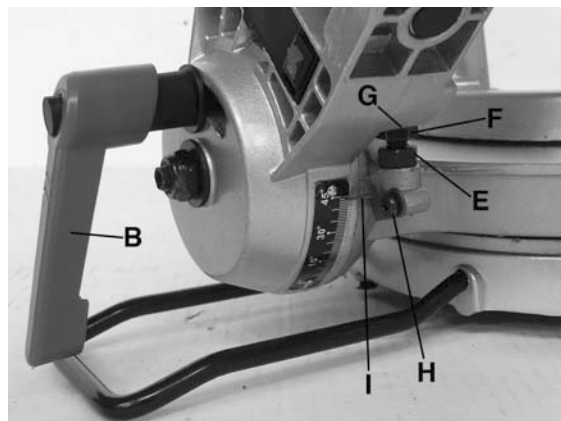

FIGURE 14
5. A bevel angle pointer adjustment may be needed, loosen pointer screw (H) Fig.14 and position pointer (I) Fig.14 to the 0 mark.
8. If an adjustment is necessary, loosen bevel lock handle (B) Fig. 14, and tilt the cutting arm until the blade is 45 degrees to the table. NOTE: It may be necessary to loosen locknut (E) and hex. bolt (F) to accomplish this. Adjust hex. bolt (F) height until it comes in contact with head (G). Retighten hex. nut (E).